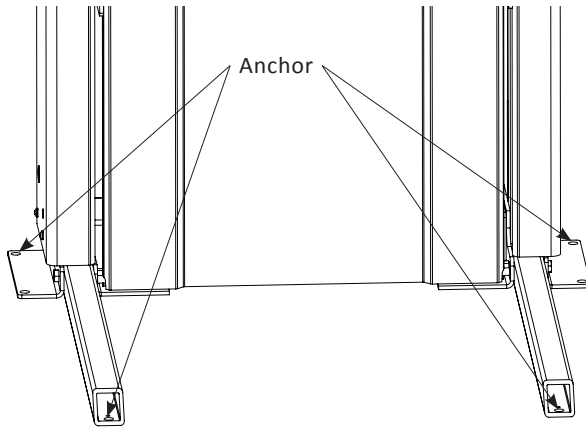

Figure 4-20
Install two (2) anchors at the back of the tower and two (2) anchors into the tower legs. *See figure 4-20.*